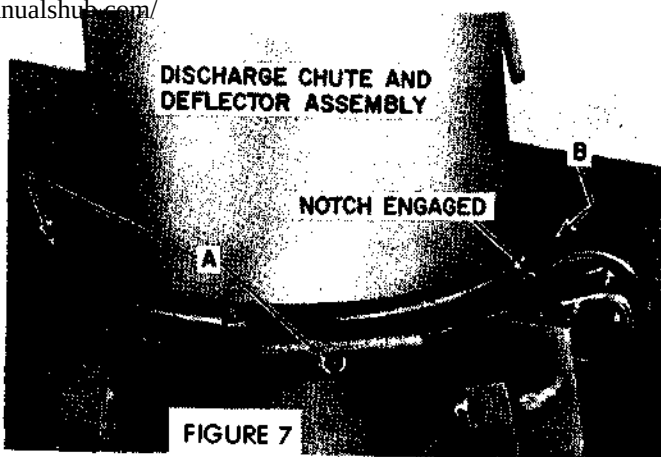

FIGURE 7
1. Apply a light coating of grease to the underside of chute base ring and position on the chute and deflector assembly on the auger housing as shown in Figure 7. The notches in the chute base must engage the spiral control as shown.
Place the three chute guides over the base ring as shown in Figure 7 and align the holes in the guides with the holes provided in the auger housing. Secure with $5/16"$ x $3/4"$ carriage bolts, lockwashers and nuts. Install nuts to the outside at Point A. Install nut to the inside at Point B.